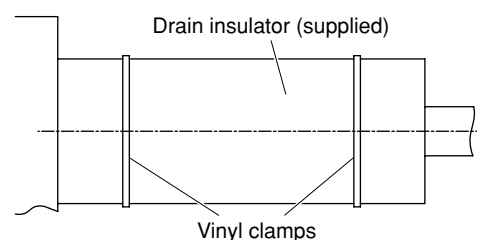

Fig. 3-42
- (2) After checking the drainage, wrap the supplied packing and drain pipe insulator around the pipe, then secure it with the supplied clamps. (Fig. 3-42)